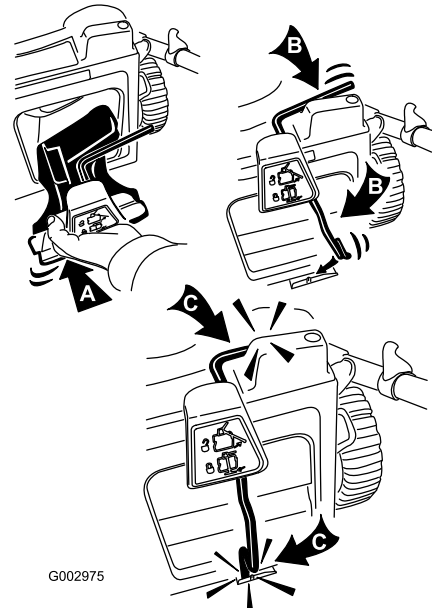

Figure 31
3. Insert the mulch plug and rotate the latch rod until it locks into place at both the top and the bottom (Figure 31).